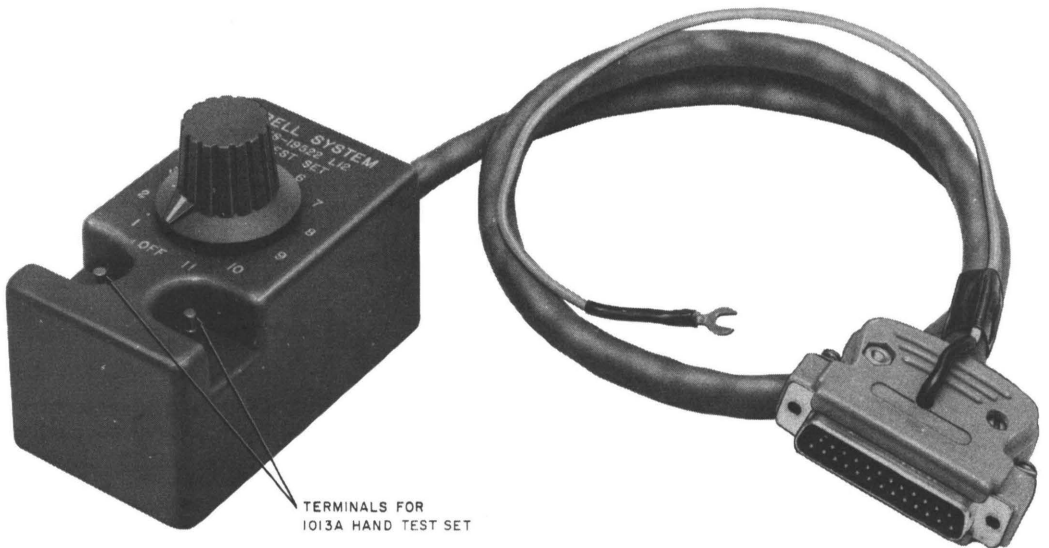

Fig. 5—KS-19522, List 12 Test Set
- Set, Test, KS-19522, L12 (required for testing recorder-couplers, Fig. 5)
**5.02** Using the KS-19522, List 12 test set (Fig. 5), test for proper operation of the recorder coupler and announcement set (Test A). If the KS-19522, List 12 test set is not available, proceed to (Test B) tests without test set.
(2) When the KS-19522, List 11 voice control unit is provided (List 2 recorder coupler), the voice control feature may be disabled by strapping terminal 5 to terminal 6 as an aid in trouble clearance.
(3) If the associated telephone set uses a G6-type amplifier handset, it will be necessary to use a 1013A (or equivalent) hand test set connected across T and R of the telephone line for monitoring.
- KS-19522, List 12 test set (Fig. 5)